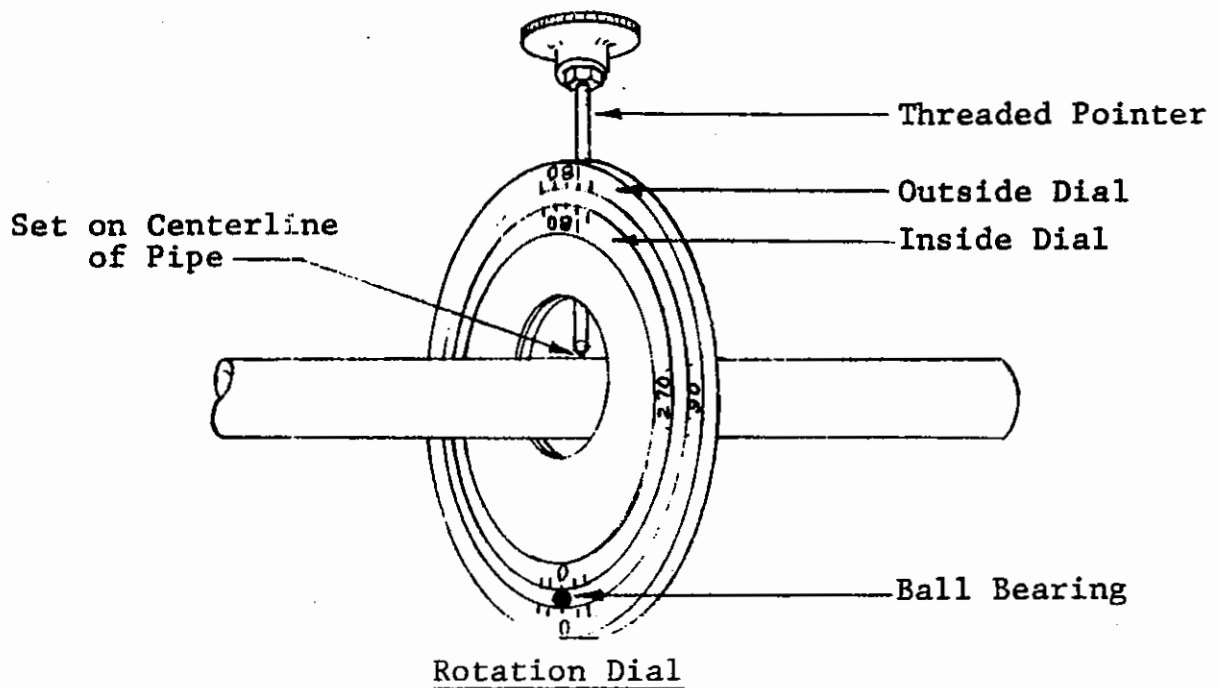

Figure 1
8. Slide the rotational dial over the right end of the pipe and move it down to a position approximately 18 INCHES PAST THE LAST BEND MARK. To clamp the dial on the pipe, HOLD UP ON THE DIAL, SET THE BALL ON ZERO (using the outside scale) and tighten the threaded pointer (see figure 1). The dial will be left in this position until the pipe is ready to be cut off.